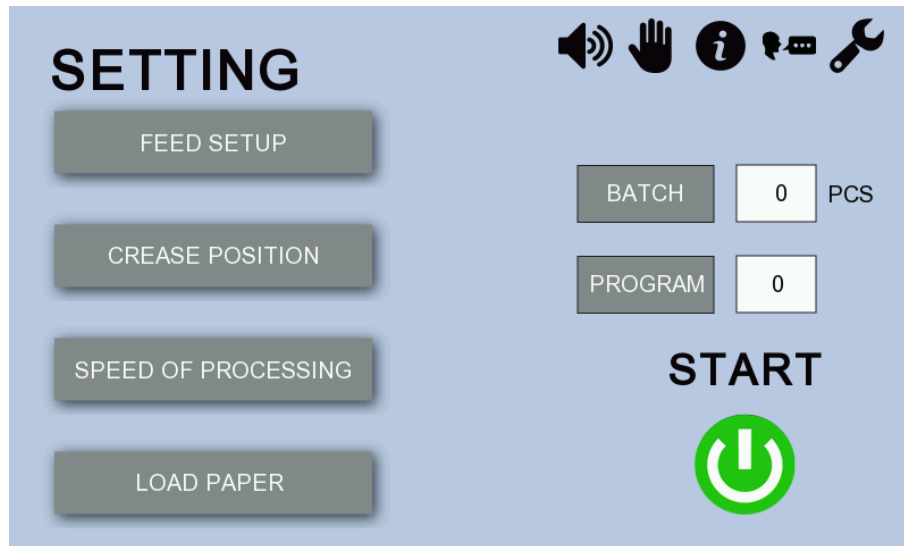
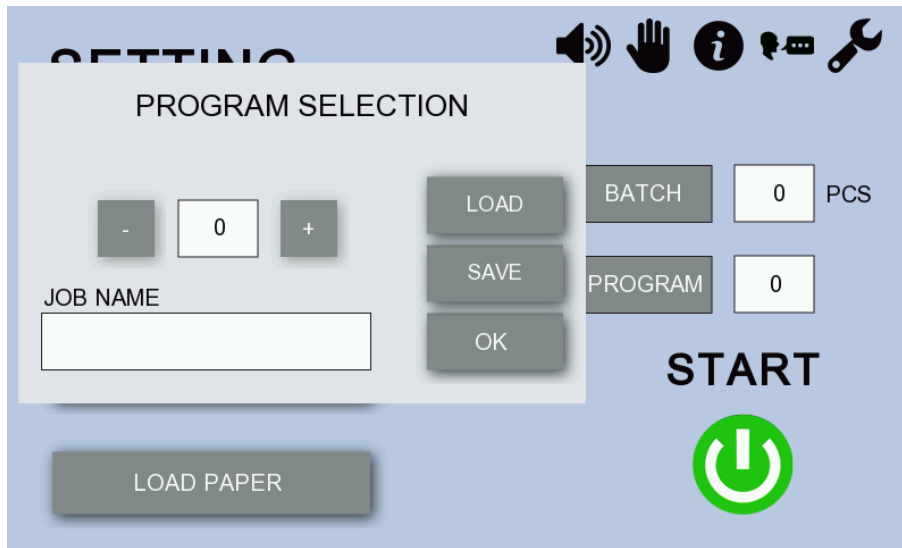
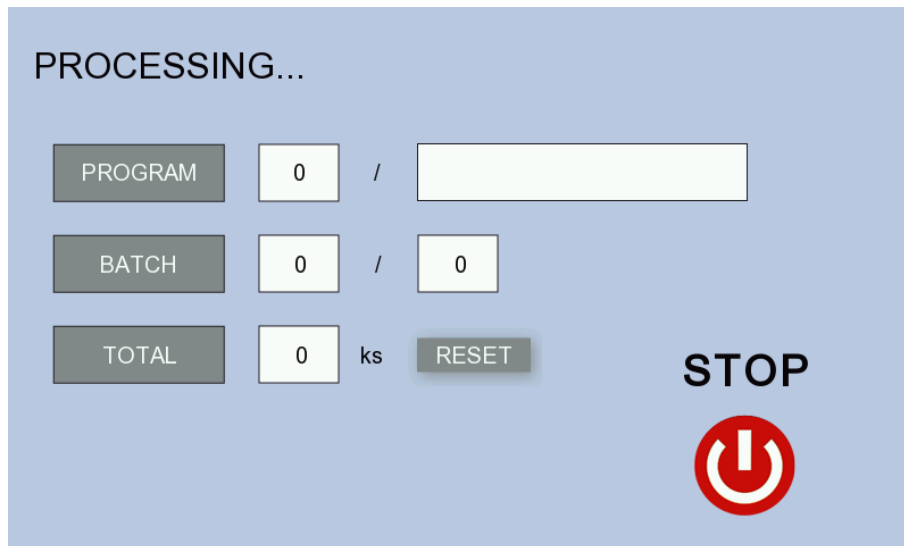
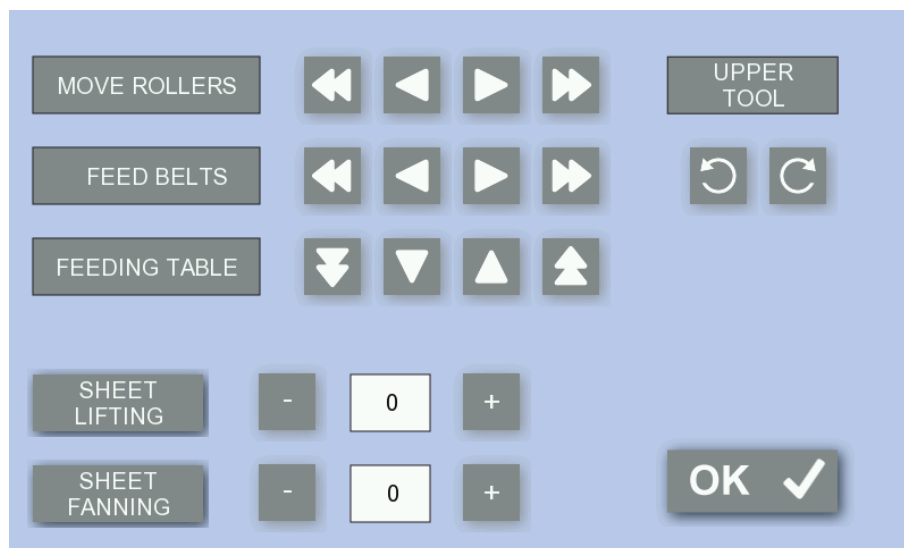

Fig. 14: "SETTING" Screen
Fig. 23: “PROGRAM SAVING AND LOADING” Screen
Fig. 24: "WORKING CYCLE" Screen
Fig. 26: “MANUAL CONTROL” Screen
Press **FEEDING** on the "SETTING" screen (Fig. 14) to display the following menu.
Press **CREASE POSITION** on the “SETTING” screen (Fig. 14) to display the following menu.
similarly for other types of fold). A single sheet is run through the machine without creasing; the machine measures the sheet and saves the sheet length in the memory. Values are displayed in their respective fields when the sheet has passed through. Then start the test by pressing . Use the field over  to enter the number of test sheets if required; the default value is 1. During the test the screen shows the sheets yet to be processed in the test. Once the test is completed, it is recommended to check the measured length before processing the rest of the batch. If the crease is not precisely at the required distance, correct the distance manually. Then press **OK** to return to the “SETTING” screen (Fig. 14) and press **START**  to run the working process.
Press **SPEED OF PROCESSING** on the “SETTING” screen (Fig. 14) to display the following menu.
Press the numeric icon next to the field **BATCH** on the “SETTING” screen (Fig. 14) to display numeric keypad (Fig. 22). Use the numeric keypad to set the batch (= the number of sheets to be processed by the machine in a single cycle) and press **ENTER** to confirm. Enter **0** if you wish to switch the batch off. Batch processing may be interrupted in three ways:
program. Press the numeric icon next to the field **PROGRAM** on the “SETTING” screen (Fig. 14). The program saving and loading menu (Fig. 23) is displayed. Use the **+** and **-** keys to list values between **0** and **5**. You can save your jobs under **1–5**; value **0** indicates no program is saved in the memory.
Adjust the feeding table (11) according to the instructions in Section 7.1. There must be a minimum gap between the side guides and the pile of paper. The machine’s design allows loading a pile of paper of up to 2.75” in height. Adjust the distance of the back stop (5) on the delivery table (7) according to the size of the sheet. Press **START**  on the touch screen (Fig. 14). The machine starts running and the touch screen switches to the “WORKING CYCLE” screen (Fig. 24). The **STOP** icon  and information about the program, the batch and the number of processed sheets are displayed on the touch screen.
Manual control is mostly used when replacing the tools or when loosening jammed paper from the machine. Press  (manual control) on the “SETTING” screen (Fig. 14) and the following menu is displayed (Fig. 26). Press the move forward/backward icons ,  next to the **MOVE ROLLERS** field to set the machine’s rollers running. Icons  and  define the continuity of the run of the rollers.  – rollers are turning only if the arrow is held.  – rollers start running and rotate until the icon is pressed again. The **FEED BELTS** (feeding strips running) and **FEEDING TABLE** fields work similarly. Press **SHEET LIFTING** and **SHEET FANNING** to run the respective functions. Use  (tool backwards) under the **UPPER TOOL** field if the perforation/creasing force gets too high and the top bar (23) remains in the lower position. Press  to unlock the tool and adjust the thrust by using the tool thrust regulation screws (20). Activate  (tool forwards) to make a trial stroke. Refer to Section 7.5 for how to use the icons of the **UPPER TOOL** field. Press **OK** to go back to the “SETTING” screen.